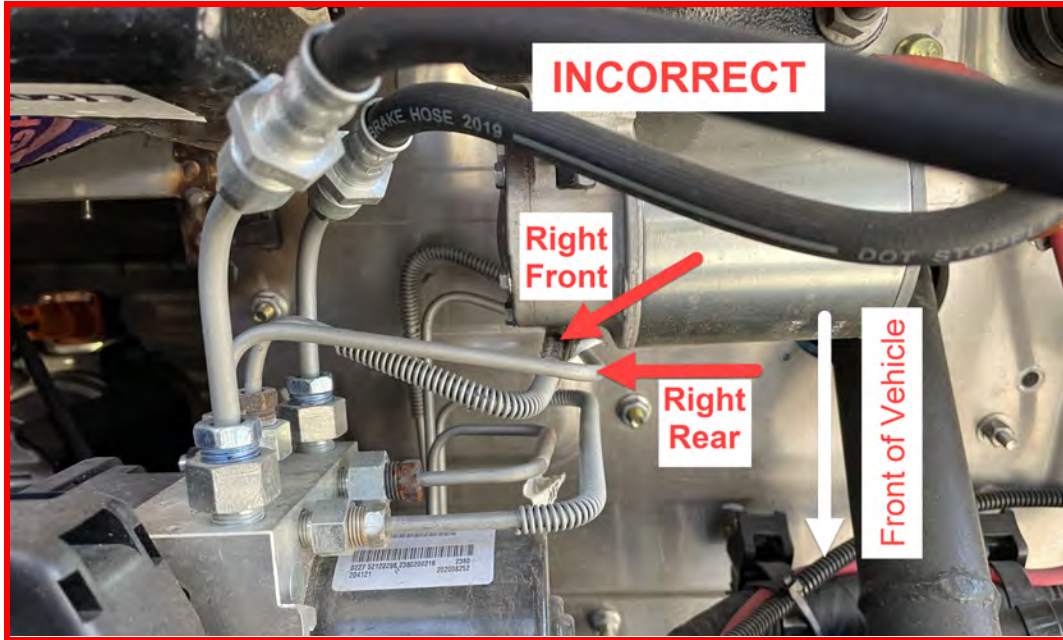

Figure 7 - INCORRECT Brake Line Routing (Right Front & Right Rear)
- a. Brake line routing towards the hydraulic brake assist motor (Figure 7) must be replaced - Refer to **Section 3 - Right Front Brake Line Replacement**